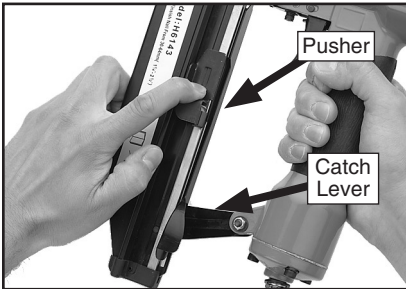

Figure 3. Sliding magazine pusher back and engaging catch lever.
2. Grip the nailer firmly, and pull the magazine pusher back until the catch lever engages, as shown in **Figure 3**.